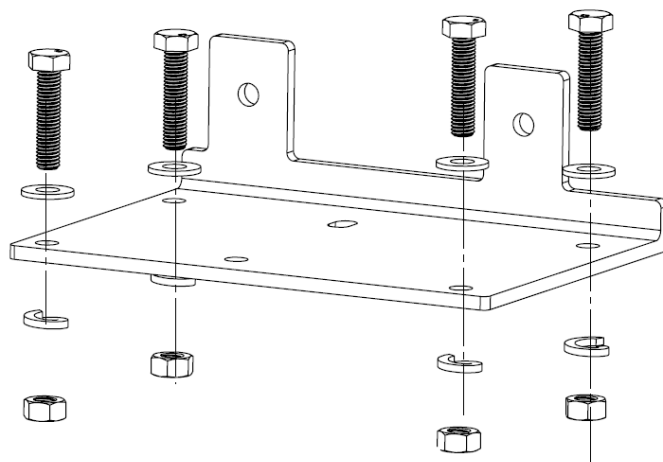

Figure 2: Mounting the bracket onto desired location
2. Once the placement of the bracket is located, mount the bracket using four metric bolts. (Hex Heads: 13mm, Nuts: 14mm) (See Figure 2)